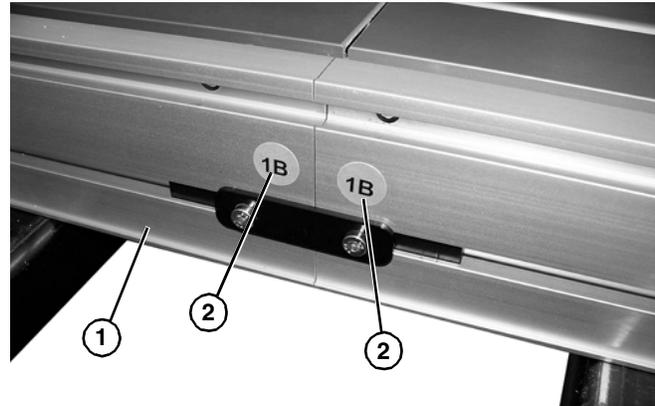

Figure 5
1. Locate and arrange conveyor sections by section labels (Figure 5, item 2).